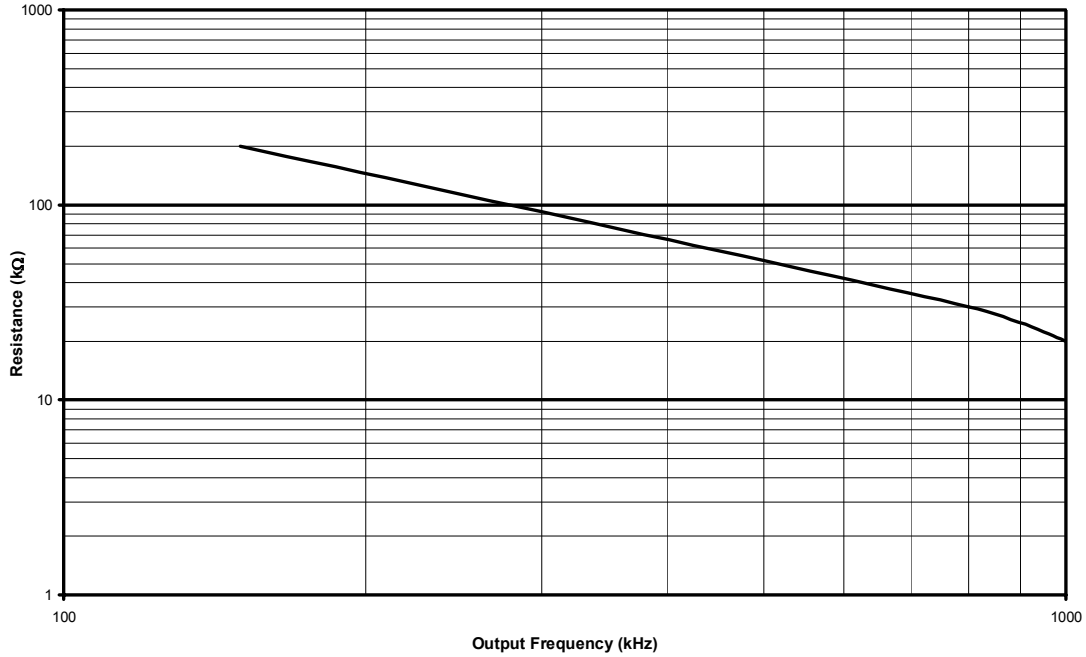

Figure 1 - R4 vs. Frequency per Phase
In this document, table 1 and figure 1 are provided to enable engineers to easily evaluate the iP2001 in a 3-phase configuration that is capable of providing up to 60A in a lab environment without airflow. Figures 3, 4, 5 and 6 and the complete bill of materials in table 2 are provided as a reference design to enable engineers to very quickly and easily design a 3-phase converter. In order to optimize this design to your specific requirements refer to the data sheet for the controller listed in the bill of materials. A variety of other controllers may also be used, but the design will require layout and control circuit modifications.
- The switching frequency per phase is set to 500kHz with the frequency set resistor R4. This creates an effective output frequency of 1.5MHz. The graph in figure 1 shows the relationship between R4 and the switching frequency per phase. This frequency may be adjusted by changing R4 according to this graph; however, extreme changes from the 500kHz set point may require redesigning the control loop and adjusting the values of input and output capacitors. Also, refer to the SOA graph in the iP2001 datasheet for maximum operating current at different frequencies.